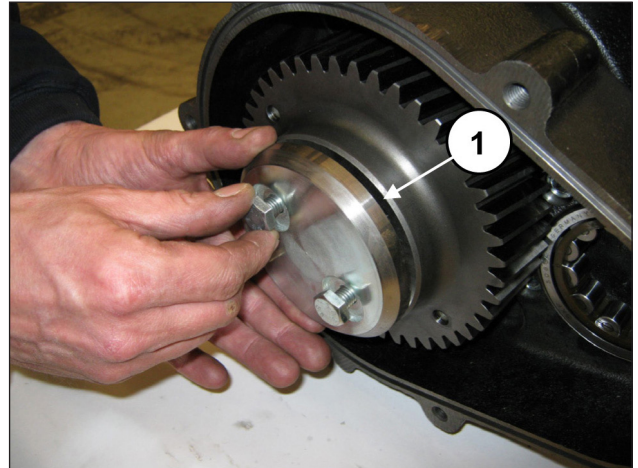

Fig. 76
Fasten the ring gear stop (pos. ①, Fig. 76) using 2 M10x25 screws.